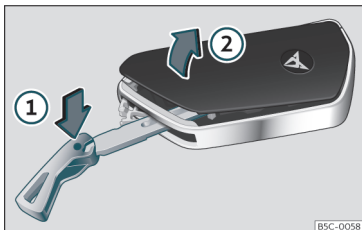

Fig. 72 Vehicle key: opening the battery compartment cover.
- Insert the key blade into the slot >>> Fig. 72, press it in the direction of arrow ① and detach the cover by levering it ②.